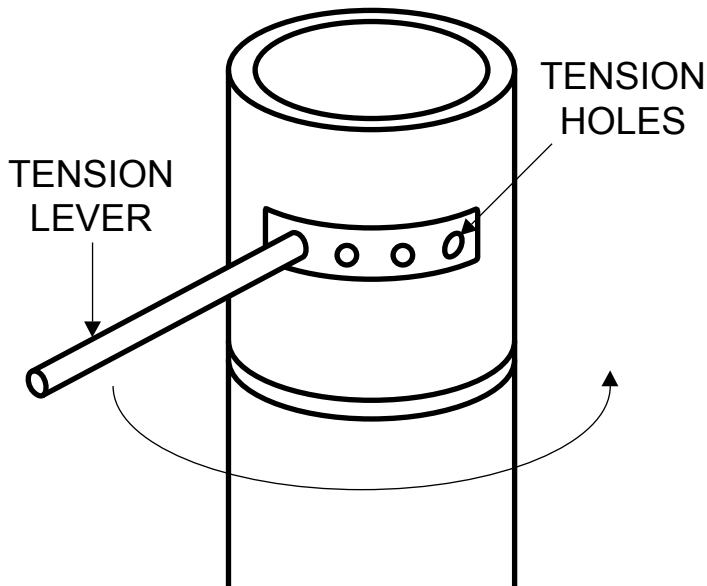

FIGURE 1
- B. Do not exceed three (3) holes tension for 180 degree door opening, or four (4) holes tension for 90 degree opening.
- A. Insert tension lever into left hand hole in adjustment cylinder and rotate tension lever to the right as shown in figure 1.